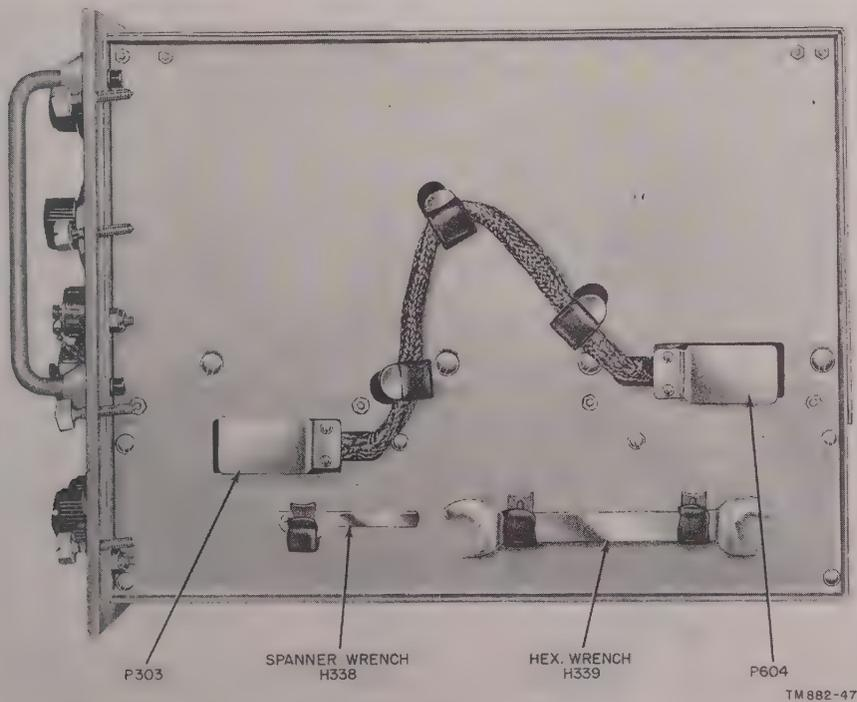
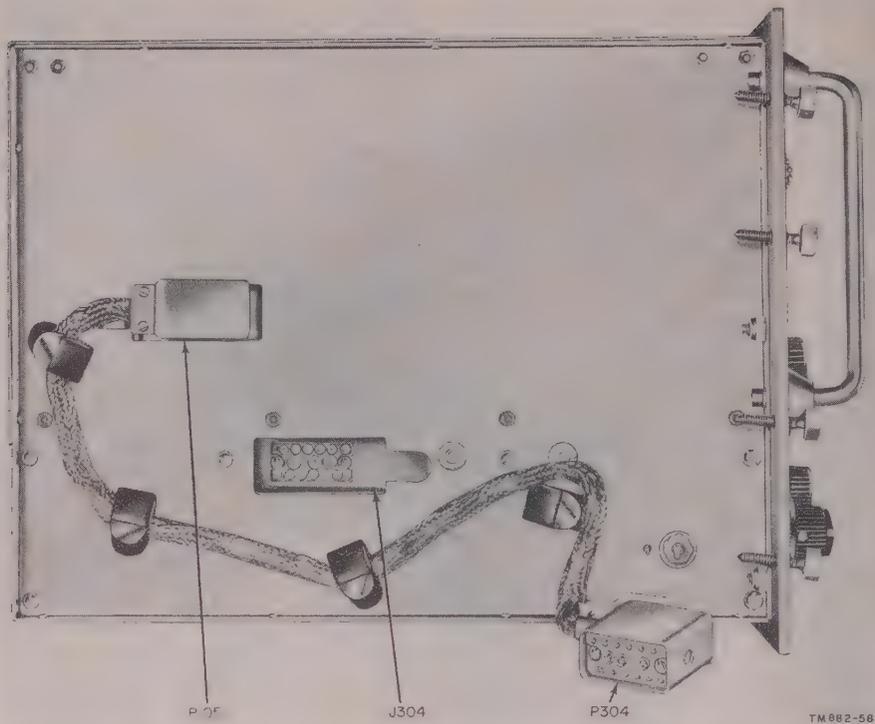

Figure 14. Radio Receiver R-220/URR, cable connections on power supply side of main unit.
Figure 15. Radio Receiver R-220/URR, cable connections on r-f side of main unit.
b. *Interconnection of Units* (figs. 14 and 15). Radio Receiver R-220/URR is made up of three major components: the r-f unit, the main (base) unit, and the power supply unit, PP-660/URR. These three units are interconnected by two power cables and one coaxial cable. The coax connects the r-f unit with the main unit. The power supply and main unit are interconnected by a power cable on the right-hand side of the receiver (see fig. 14); the main unit and r-f unit are interconnected by a similar cable on the left-hand side of the receiver (see fig. 15). Before attempting to disassemble the receiver units, always disengage both power cables from their recessed jacks and remove the
d. Remove the receiver from the case and inspect the two cable connectors and their respective plugs and connector receptacles for contact, looseness, cracks or other damage (figs. 14 and 15).
e. Check and inspect the wrenches and alignment tool which are fastened to the outside of the main unit (figs. 14 and 19).